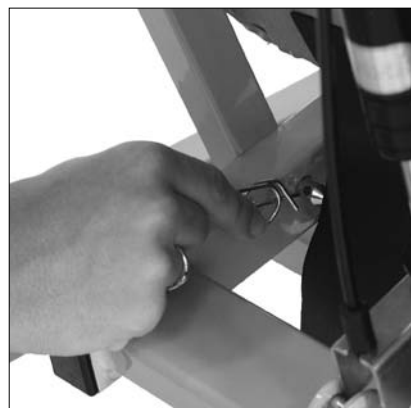

Figure 5
4. Secure the two clevis pins by replacing the bridge clips. (Fig. 5)